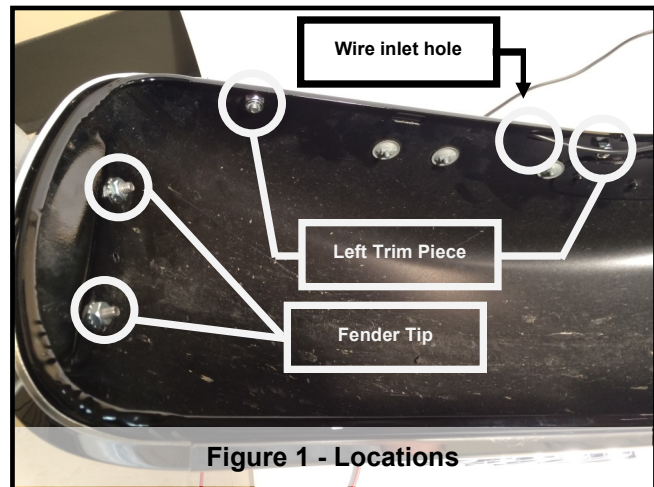

Figure 1 - Locations
3. Remove the left side chrome trim piece to allow routing of the wire. The nuts are located on the inside of the fender. Save all parts for re-installation later. (See Figure 1)
4. Remove the stock fender tip assembly by removing the nuts on the inside of the fender. Discard. (See Figure 1)
11. Guide extension cable along the outside of the fender, then through the second hole cut out. (See figure 1 for hole location). Once wiring is through hole, re-install the outside trim piece.